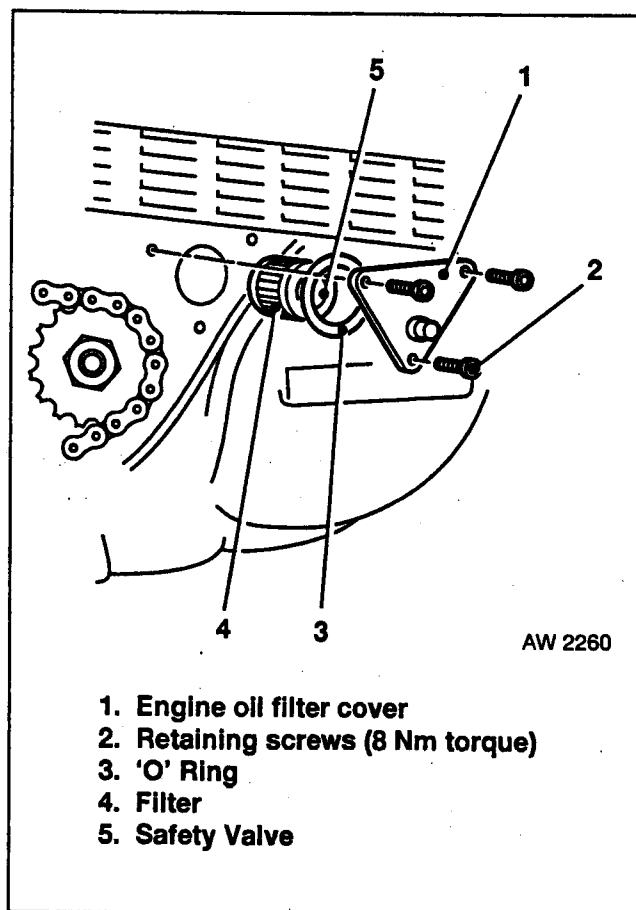

Fig 3.7 Engine Oil Filter
- a. The main engine oil filter (Fig 3.7 refers) is situated behind the sprocket cover on the right hand side of the machine. To gain access it is necessary to remove the rear brake pedal and sprocket cover. Proceed as follows:
- b. Remove sprocket cover retained by three allen screws. The engine oil filter is housed behind the cover (Fig 3.7(1) refers). Remove the three retaining screws (Fig 3.7(2) refers) and cover.
This oil filter type is equipped with a safety valve to prevent lack of oil in the engine caused by a blocked oil filter. To check, depress the safety valve with a finger (Fig 3.7(5) refers). It should function freely.